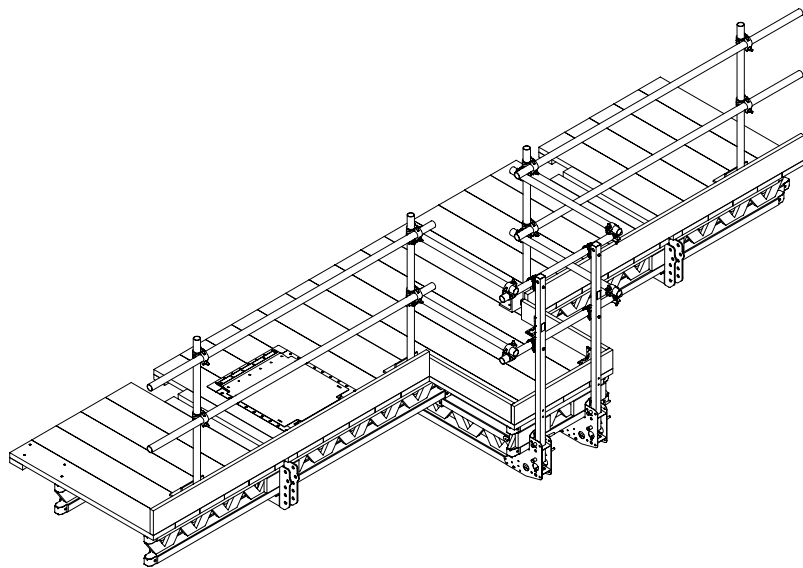

Fig. B5.05
10. Mount L-Angle on planking using 2x wood screws 8 x 60 (42) and washers (50) respectively.
11. Mount Screw-On Coupling (68) on L-Angle RCS.
12. Mount guardrails consisting of scaffold tubes Ø 48 mm and Swivel Couplers (98) along the complete length of the platform and ladder platform.
13. Mount Toeboards on the planking using Angle Connectors (54) and screws 6 x 40 (45).
- (Fig. B5.05 - B5.07)